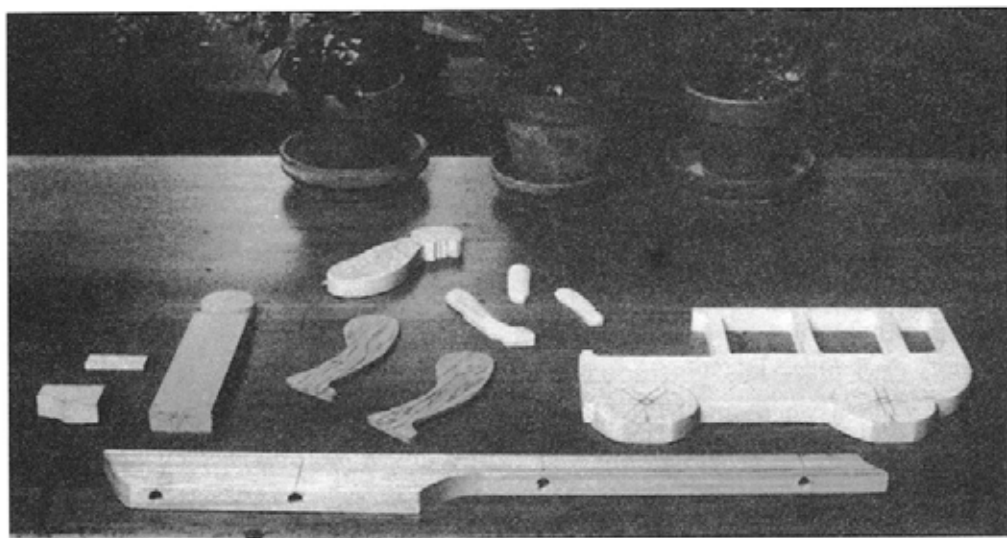

Figure 3-4. Cut out the principal figures.
4. Cut out the principal figures or objects, with their attached parts (arms, legs, supporting side pieces, etc.) (Fig. 3-4). Drill holes through the figures or objects where indicated and line the holes with brass tubing where recommended.